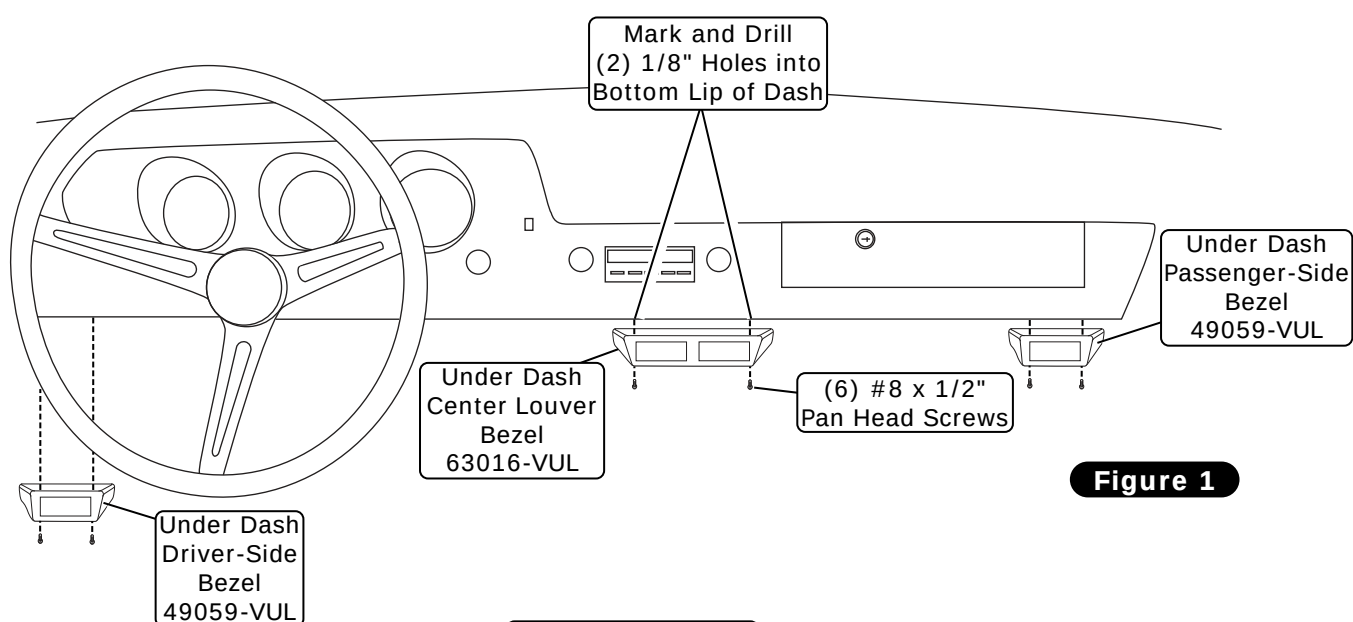

Figure 1
1. Place the under dash center louver bezel under the dash in the desired location (See Photo 1 and Figure 1, below). Using the louver bezel as a template, mark and drill (2) 1/8" mounting holes into the bottom lip of the dash (See Figure 1, below).
2. Secure the louver bezel under the dash using (2) #8 x 1/2" pan head screws (See Figure 1, below).
3. Insert (2) lengths of 2 1/2" duct hose (See Figure 1, Page 20, for duct hose lengths) through the back of the louver bezel (See Photo 2, below).
4. Attach the (2) duct hoses to the hose adapters on the (2) louvers (See Photos 3 and 4, below).
5. Insert the (2) louvers into the under dash center louver bezel and push until fully secured (See Photo 5, below).